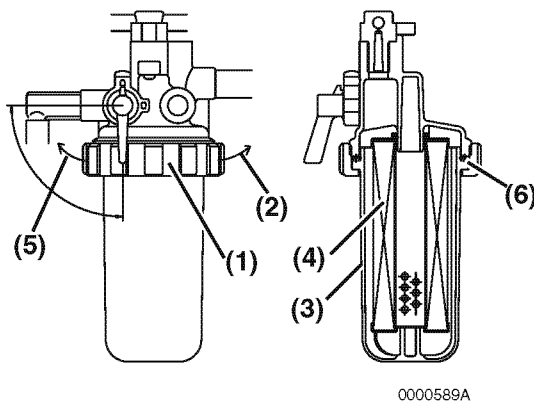

Figure 5-14
3. Turn the retaining ring (Figure 5-14, (1)) to the left (Figure 5-14, (2)).
4. Carefully remove the cup (Figure 5-14, (3)) and pour the fuel into an approved container and dispose of waste properly. Hold the bottom of the cup with a shop towel to prevent the fuel from dripping. Wipe up any spills immediately.
5. Remove the element (Figure 5-14, (4)) by pulling it down.
8. Check the condition of the cup O-ring (Figure 5-14, (6)). Replace if necessary.
9. Reinstall the cup to the mounting flange and turn the retaining ring (Figure 5-14, (1)) to the right (Figure 5-14, (2)). Hand-tighten only.